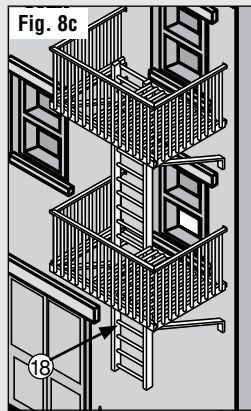

Fig. 8c
- Apply glue to Fire Escape Ladder (18) placement posts, install as illustrated. (Fig. 8c)